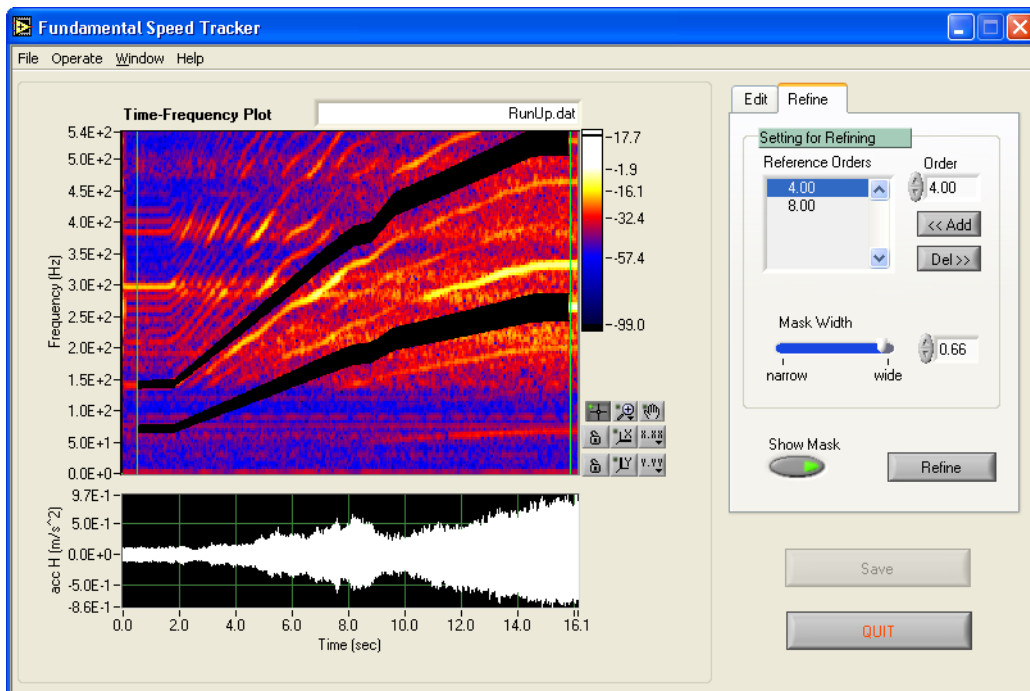

Figure 4-3. Refine Selected Order
6. Set the **Mask Width** to a value sufficient to cover the most significant order. You also can add other significant orders in **Reference Orders** to help refine the most significant order. Figure 4-3 shows the options available on the **Refine** tab.